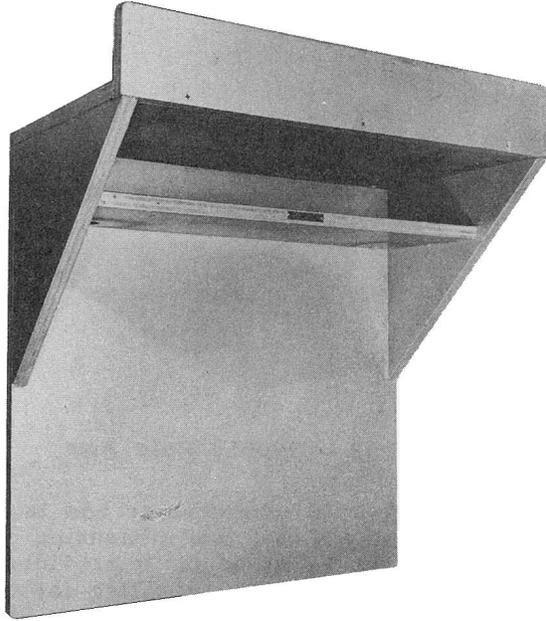

Figure 71 - GB-3302 Mounting Shelf
4.19 The GB-3302 mounting shelf is a 15" by 24" wooden shelf on a 24" by 24" backboard. There is a smaller shelf (7-1/2" by 22") located 3 inches below the larger one for drawings, sketches, etc. The upper shelf has a protective cleat 3 inches high along the front and is drilled for input, output, and power wiring. (Figure 71)